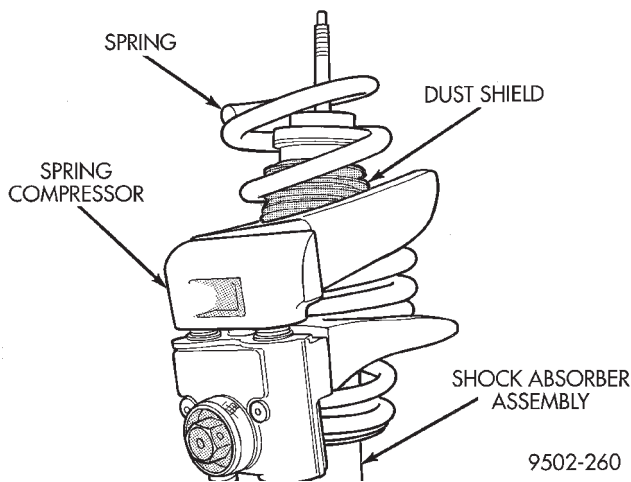

Fig. 93 Shock Absorber Dust Shield
(11) Remove the dust shield (Fig. 93) from the shock absorber assembly.
(5) Install dust shield (Fig. 93) on rod of shock absorber assembly.